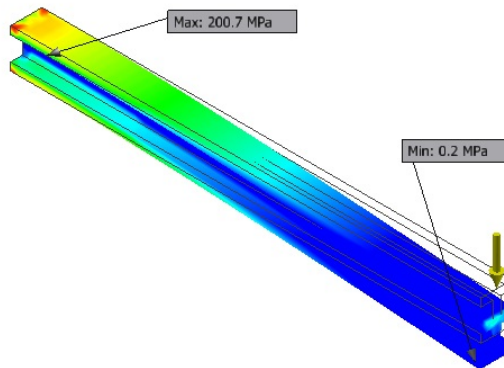

Figure 18-55 The von Mises contour with the maximum and minimum stress value callouts
2. Similarly, choose the **Minimum Value** tool from the **Display** panel of the **Stress Analysis** tab; a probe point with the minimum value of the von Mises stress callout is displayed in the drawing area, refer to Figure 18-55.